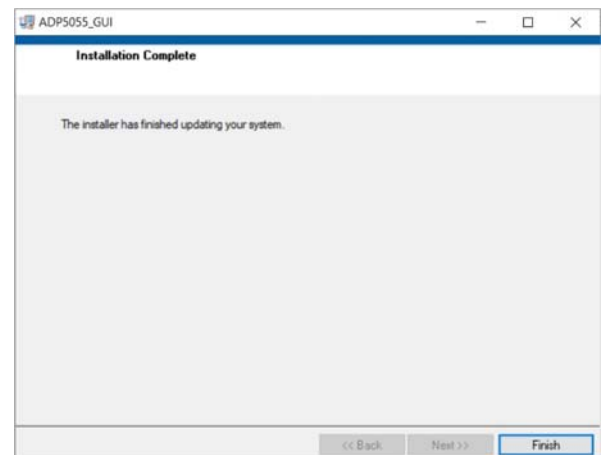

Figure 5. `ADP5055_GUI` Installation Complete Window
5. Click **Finish** to complete the installation (see Figure 5).